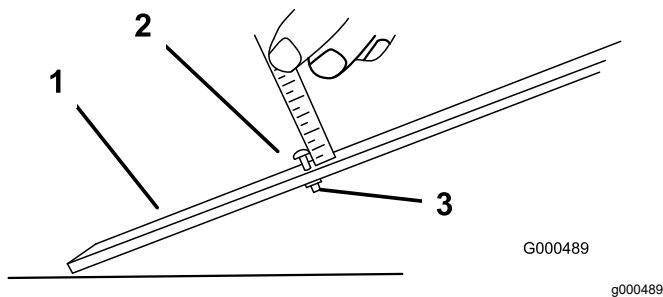

Figure 9
1. Loosen the nut on the gauge bar and set the adjusting screw to the desired height of cut (Figure 9).